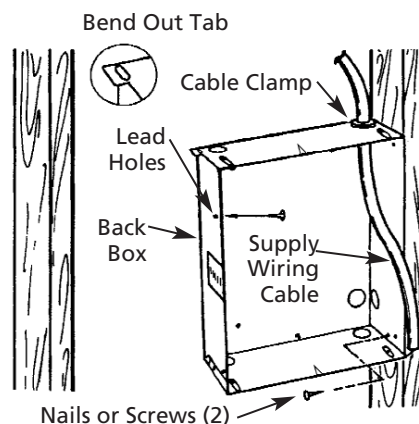

Figure 2
1. Determine which side of the back box is to be mounted against a stud and bend the tabs at the rear corners out 90 degrees so that the back box will be square with the stud after installation. (See Figure 2).
3. Position back box against side of studs and secure using nails or screws as shown in Figure 2.
NOTE: Lead holes for a #8 sheet metal screw have been provided in the sides of the back box. After the finished wall or ceiling has been put up, drive a # 8 sheet metal screw (recommended 1" long) through the side of the box not mounted to the stud. This will prevent the back box from pulling out when installing the heater assembly. (See Figure 2).